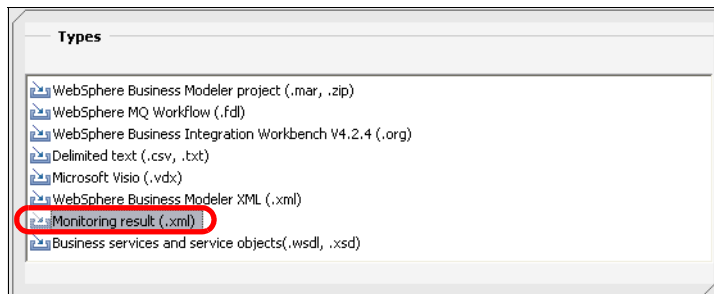

Figure 15-3 Modeler: Importing Monitor results (1)
- ▶ Select *Monitoring result (.xml)*, then click *Next* (Figure 15-3).